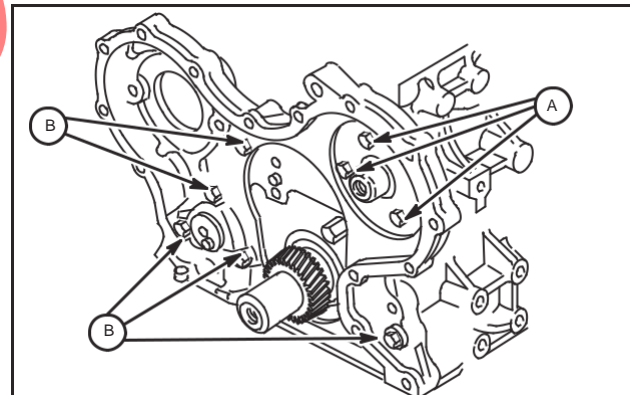

Fig. 11 – Removing Timing Gear Case
2. Remove parts in sequence shown, Fig. 11.